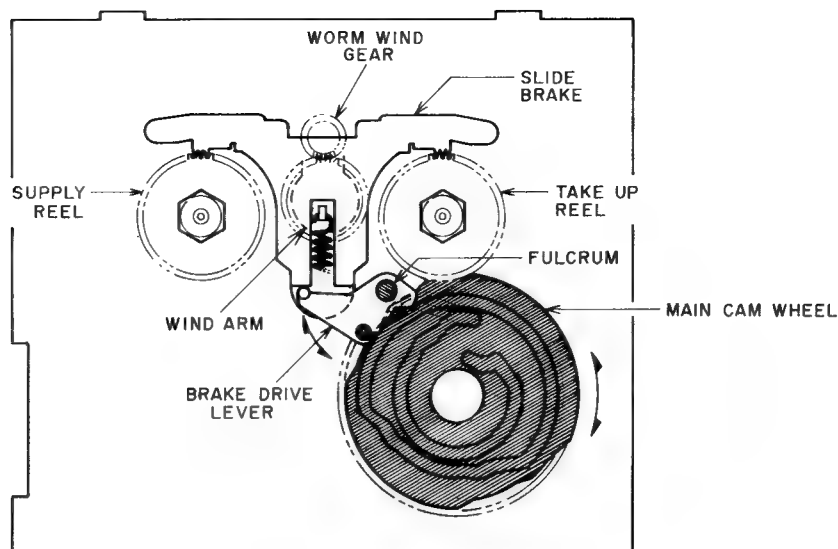

Fig. 5-4
4) Brake and Reel Base (Refer to Figs. 5-4 to 5-7)